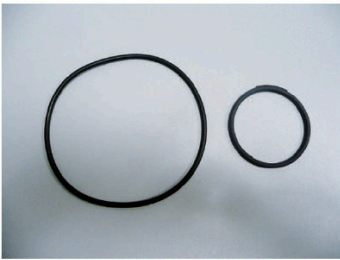

**FIGURE 3 - ZONES IN THE INSTALLATION**
**(EN) THE PUMP MUST NOT BE INSTALLED:**
- In Zone 0 (Z0) and Zone 1 (Z1) (FIGURE 3).
**(ES) LA BOMBA NO DEBE INSTALARSE**
**(FR) LA POMPE NE DOIT PAS ÊTRE INSTALLÉE**
- Dans la zone 0 (Z0) et la zone 1 (Z1) (FIGURE 3).
**(DE) DARF DIE PUMPE NICHT INSTALLIERT WERDEN:**
- In Zone 0 (Z0) und Zone 1 (Z1) (ABBILDUNG 3).
**(IT) LA POMPA NON DEVE ESSERE INSTALLATA:**
**(PL) NIE WOLNO INSTALOWAĆ POMPY:**
- W strefie 0 (Z0) i strefie 1 (Z1) (RYSUNEK 3).
**(CS) ČERPADLO NESMÍ BÝT INSTALOVÁNO:**